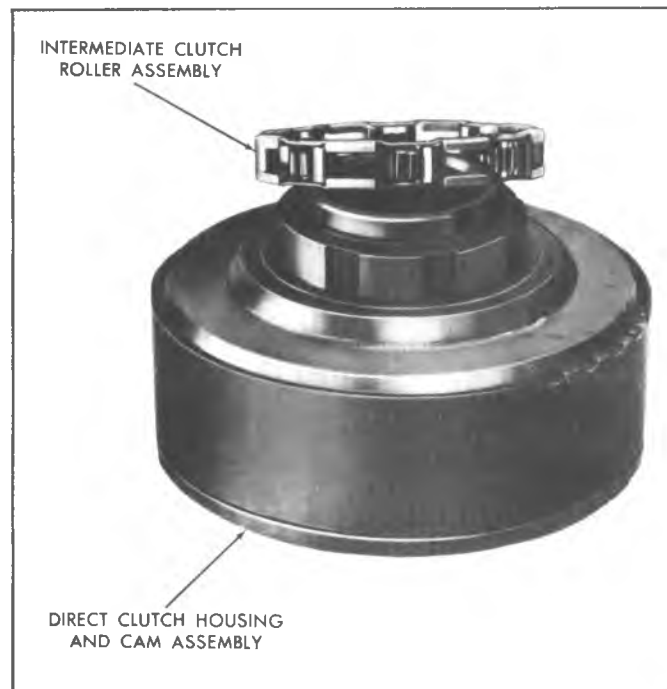

Fig. 7A-106C--Installing Intermediate Clutch Roller Assembly
11. Turn unit over and install the intermediate clutch roller assembly onto the intermediate clutch inner cam (fig. 7A-106C).